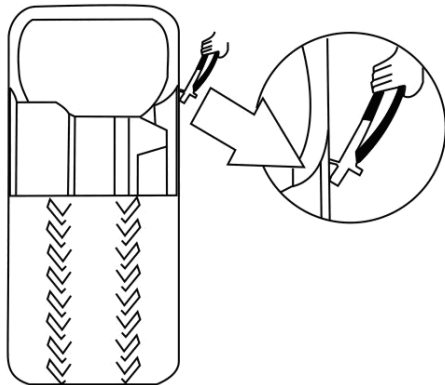

Fig.11
- Remove all the substance and weights from the rim (Fig. 11).